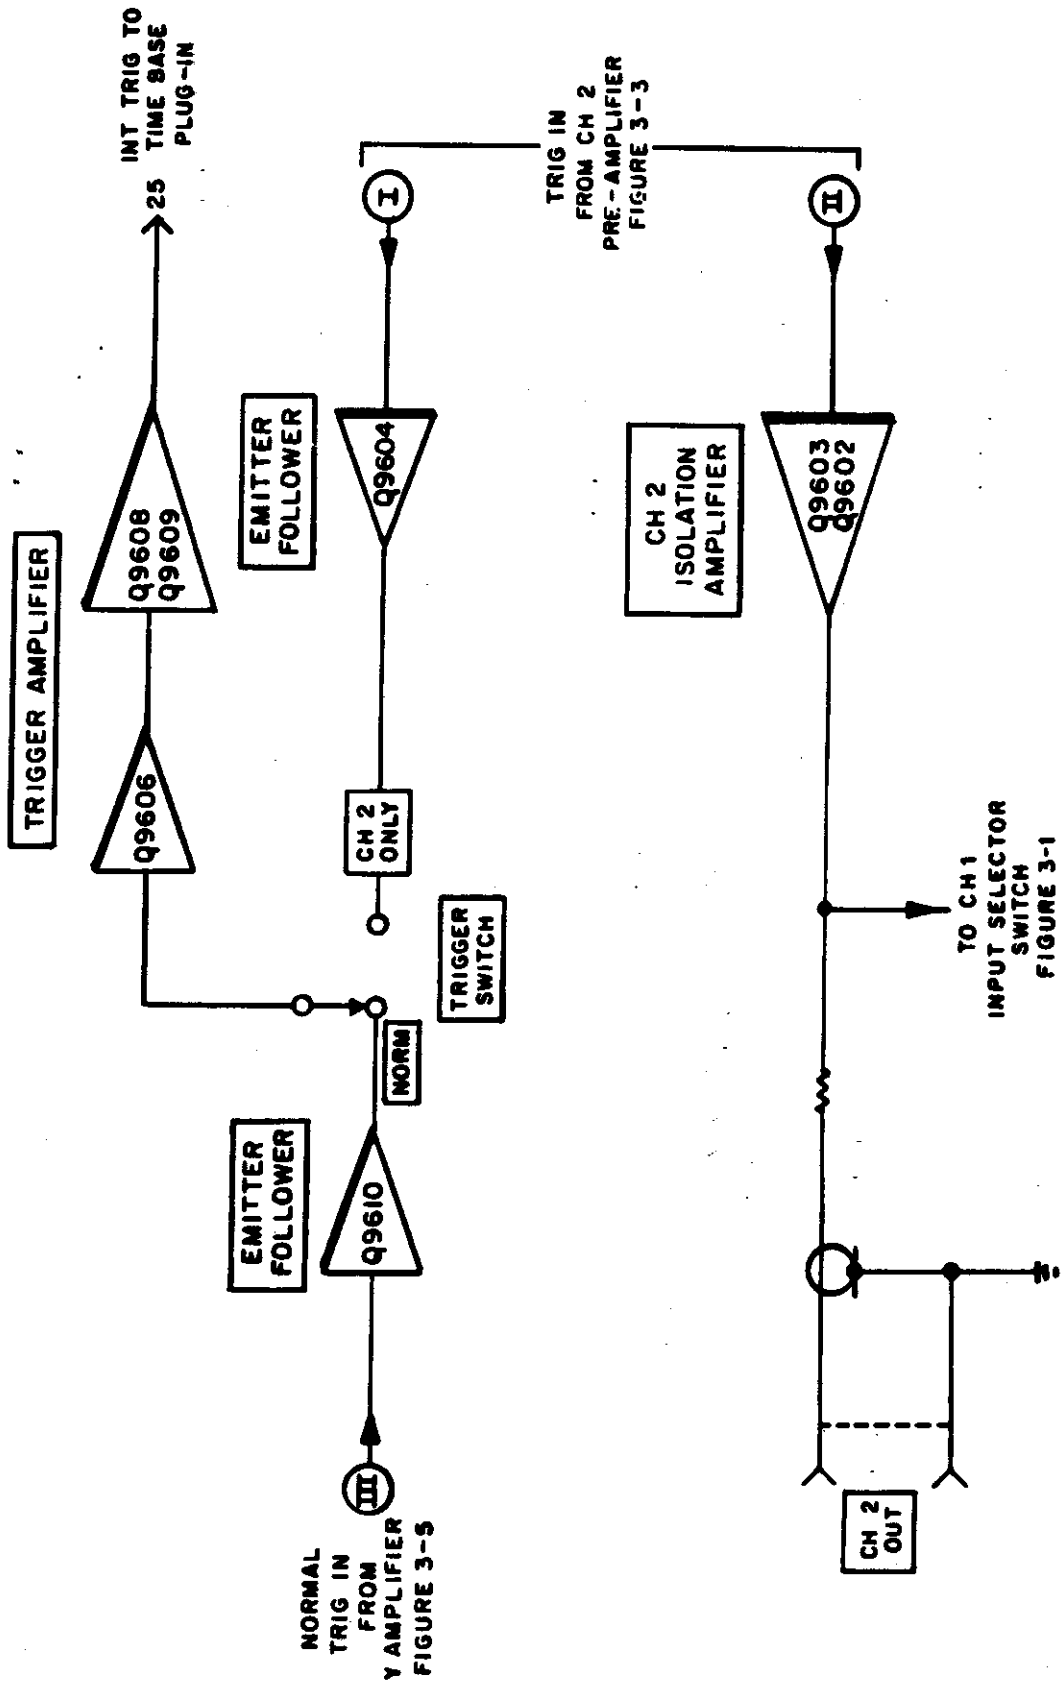

FIGURE 3-6. TYPE 79-02A TRIGGER AMPLIFIERS, FUNCTIONAL BLOCK DIAGRAM
- Figure 3-6. Type 79-02A Trigger Amplifiers, Functional Block Diagram